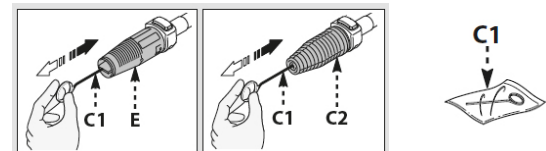
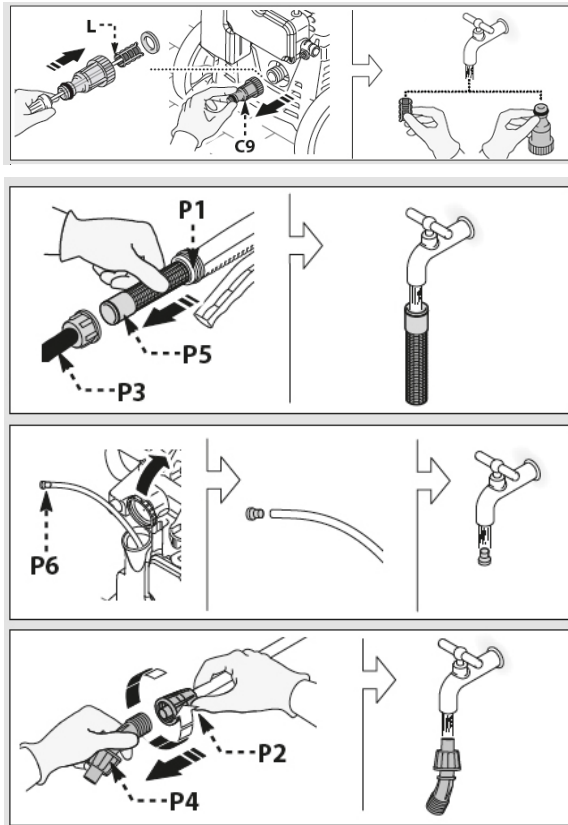

Fig. 9: Cleaning the nozzle (cleaning mode)
Fig. 10: Cleaning the nozzle (Spray mode) and filter
Step 1: Disconnect the lance (pos. E and pos. C, fig. 9) from the gun.
Step 2: Clean the nozzle hole with the tool (pos. C1, fig. 9).
Step 1: Remove the nozzle (pos. P4, fig. 10).
Check the suction filter (pos. L, fig. 10) before each use and clean it if necessary.
Clean the gun filter (pos. P5, fig. 10) and the tank filter (item P6, fig. 10) after each use.
Gun filter (pos. P5, fig. 10): if the jet flow rate decreases, unscrew the ring nut at the base of the handle (P1), remove the filter (P5) inside the gun, wash it with clean water and reinsert it.
Tank filter (pos. P6, fig. 10): Open the tank cap (pos. B6, fig. 10), pull out the suction hose, remove the filter (pos. P6, fig. 10), wash it with clean water and reinsert it.
Water filter fouled.	Clean filter (Pos. L, Fig. 9).
Suction filter (pos. L, fig. 10) is dirty.	Clean filter.
Filter or nozzles clogged.	Check and clean filters (pos. P5, Fig. 9), (pos. P6, Fig. 10) and nozzles (pos. P4, Fig. 9)..
Gun filter not inserted correctly.	Clean the filter (pos. P5, Fig. 9) / insert it correctly.